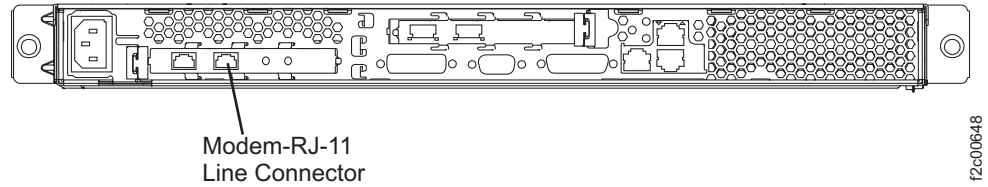
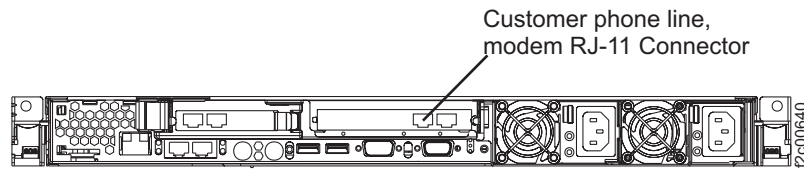

Figure 79. The modem connector (RJ-11 phone line) on the rear of the X335 management console server
Figure 80. The modem connector (RJ-11 phone line) on the rear of the X336 management console server
- b. Connect the customer's phone line cable to the modem RJ-11 line connector on the modem card at the rear of the management console server. See Figure 79 (X335 server) or Figure 80 (X336 server).